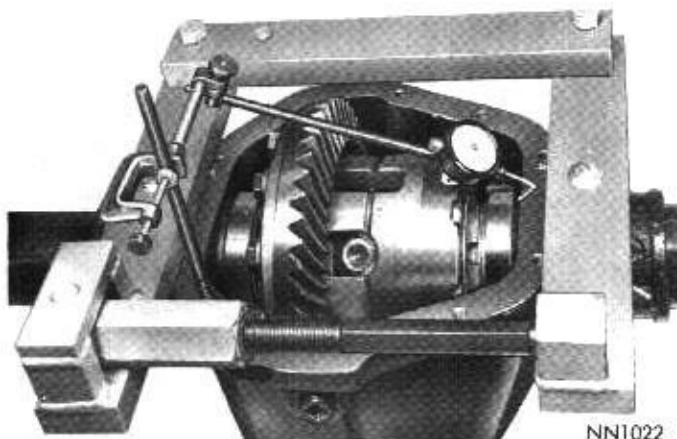

Fig. 16—Spreading Rear Axle Housing
(9) Install pilot stud on left side of axle housing. Attach dial indicator and load indicator stem slightly against opposite side of axle housing (Fig. 16).
(10) Tighten spreader tool nut sufficiently to obtain .015 inch movement of dial indicator to permit removal of differential case and ring gear assembly.